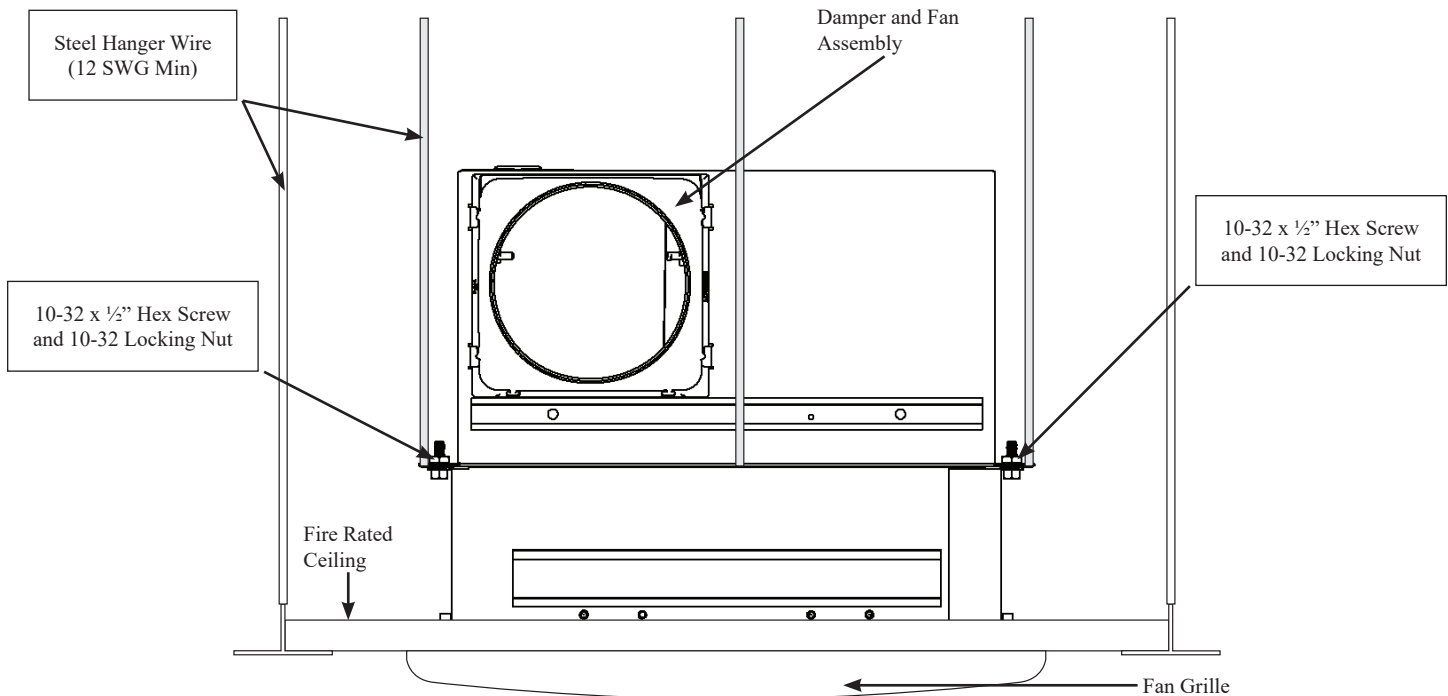

Fig. 1
1. Install the radiation damper onto the inlet side of the fan so that the holes in the sleeve align with the mounting holes on the fan using the four #10-32 x 1/2" long screws and 10-32 nuts provided with the damper assembly. (Refer Fig. 1)